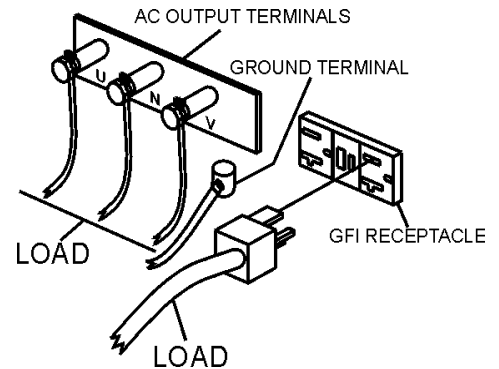

Figure 20. UNV Terminal Lugs (Load)
2. Connect the load to the UNV terminals as shown in Figure 20. These terminals can be found on the output terminal panel, (see page 32, Figure 8). To gain access to the output terminals lift the UNV cover. Tighten terminal nuts securely to prevent load wires from slipping out.